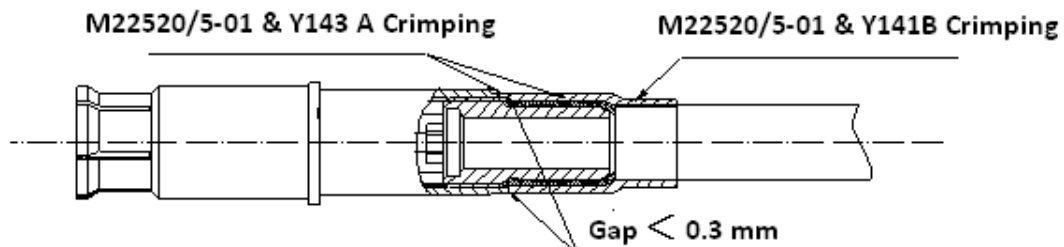

Fig 2.32
- 1) Crimp outer contact well using crimp tool listed in Table1 (M22520/5-01 & A position of Y631), crimp the outer contact to hexagon crimp position as fig 2.32 shown;
- 2) Then using crimp tool listed in Table1 (M22520/5-01 & B position of Y141), crimp the outer contact to hexagon crimp position as fig 2.32 shown;